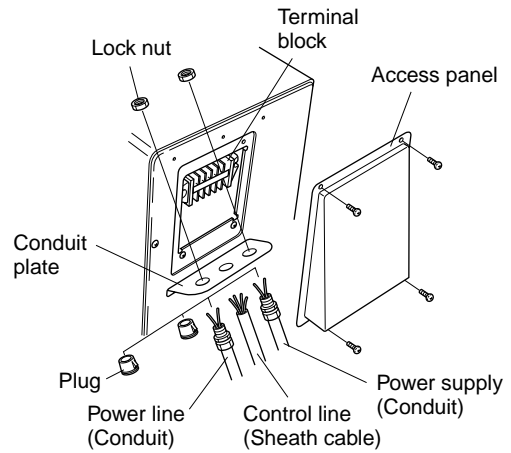

Fig. 41
- (1) Remove access panel. (Fig. 41)
- (2) Connect the power line according to the drawing on the panel side.
- (3) Be sure to size each wire allowing approx. 4 in. (10 cm) longer than the required length for wiring. Store excess wiring inside the cabinet.
- (4) When connections are completed, check that all connections are correct as shown in the wiring system diagram on panel side.
- (5) Be sure to ground the unit according to your local codes.